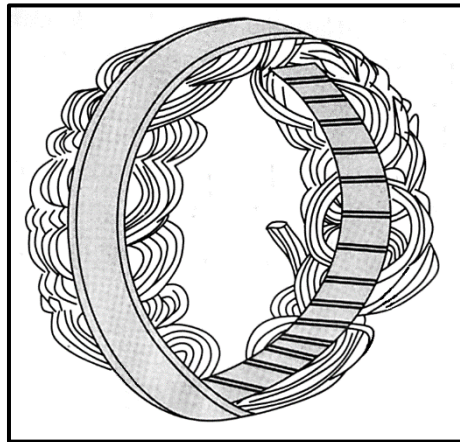

FIGURE 10.8
10.8 FIGURE 10.8 below shows a component of an alternator. Answer the questions that follow.
- 10.8.1 Identify the component in FIGURE 10.8 above. (1)
- 10.8.2 What is the function of the component shown in FIGURE 10.8 above? (2)
- 10.8.3 Draw TWO labelled sketches to show the two types of windings for the component in FIGURE 10.8. (4)